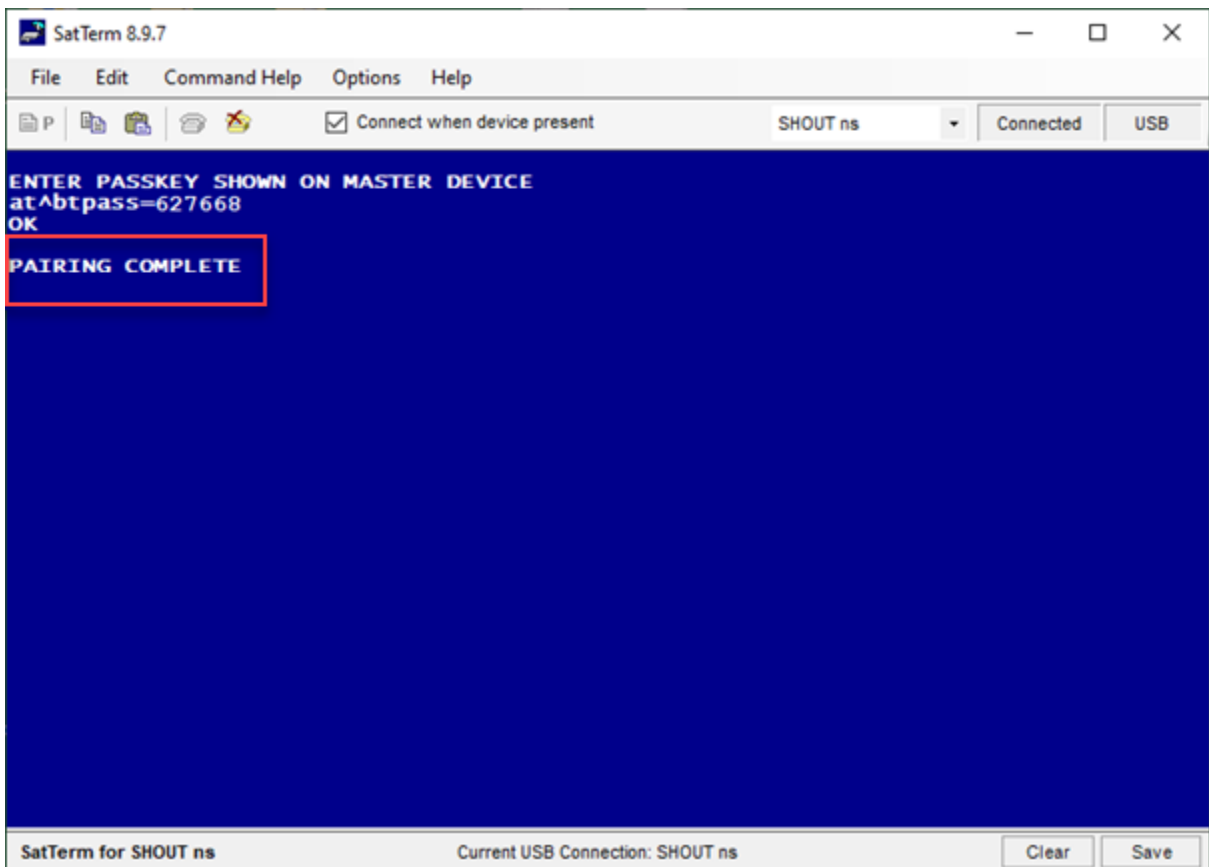

Figure 17: Enter the PIN in SatTerm
13. Enter **AT^BTPASS=<Passkey>**, where **<Passkey>** is the PIN displayed on your Windows® PC's Bluetooth connection setting, and press **Enter** (see **Figure 17**).